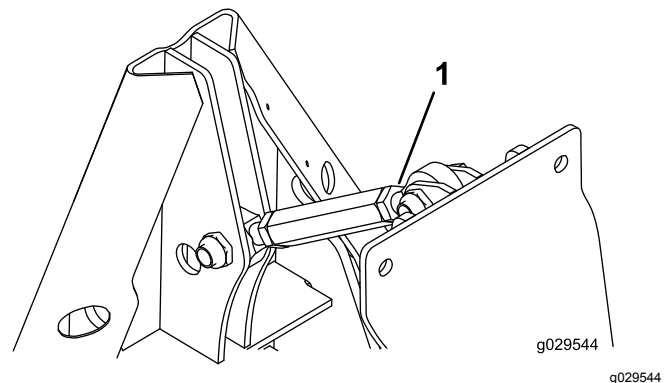

Figure 34
1. Loosen the jam nuts on the threaded link (Figure 34).
2. Rotate the hex tube until you achieve the desired angle (Figure 34).
3. Tighten the jam nut to lock the adjustment (Figure 34).